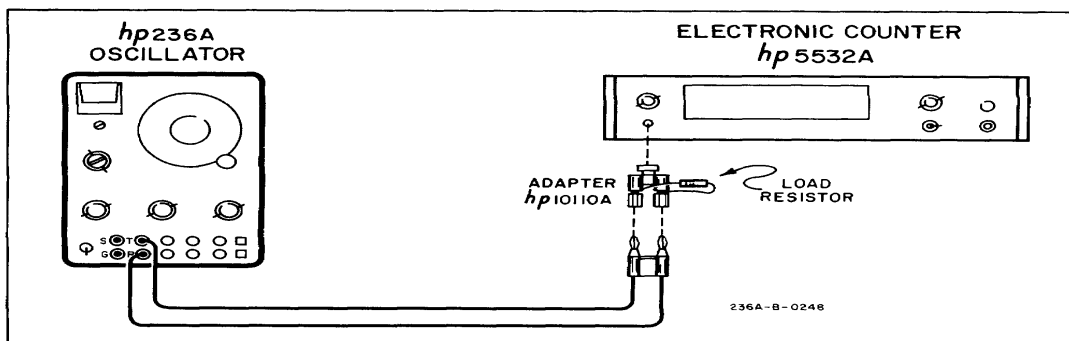

Figure 5-1. Frequency Dial Accuracy Check
- a. An Electronic Frequency Counter (-hp- Model 5532A), a 600 ohm load, a 135 ohm load, a BNC to dual-banana plug adapter (-hp- Model 10110A) and a pair of test leads 12 inches long with alligator clips will be required for this test. Figure 5-1 shows the recommended test setup.
- b. Connect a 135 ohm load across the electronic counter input as shown in Figure 5-1. Set Oscillator FUNCTION switch to 135.